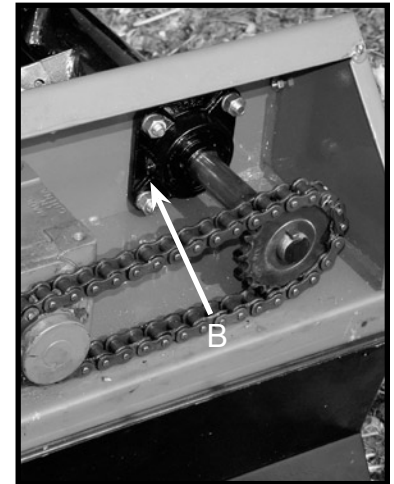

Figure 16-2
- B. Beater bearings - Figure 16-2, 16-5, 17-1*